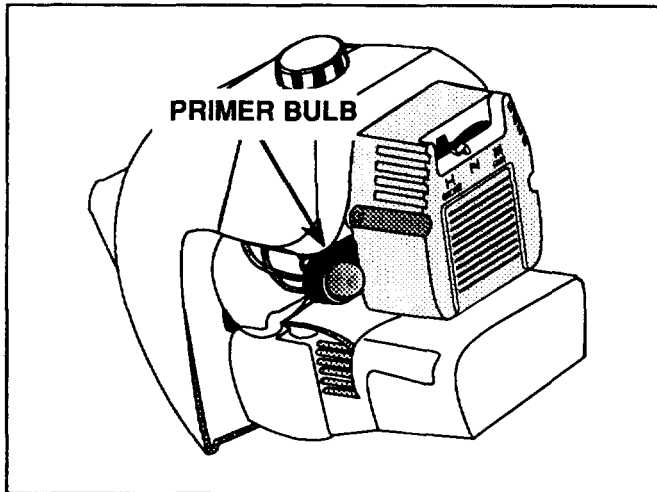

Fig. 6
3. **FULLY PRESS AND RELEASE THE PRIMER BULB 5 TO 7 TIMES** (Fig. 6).